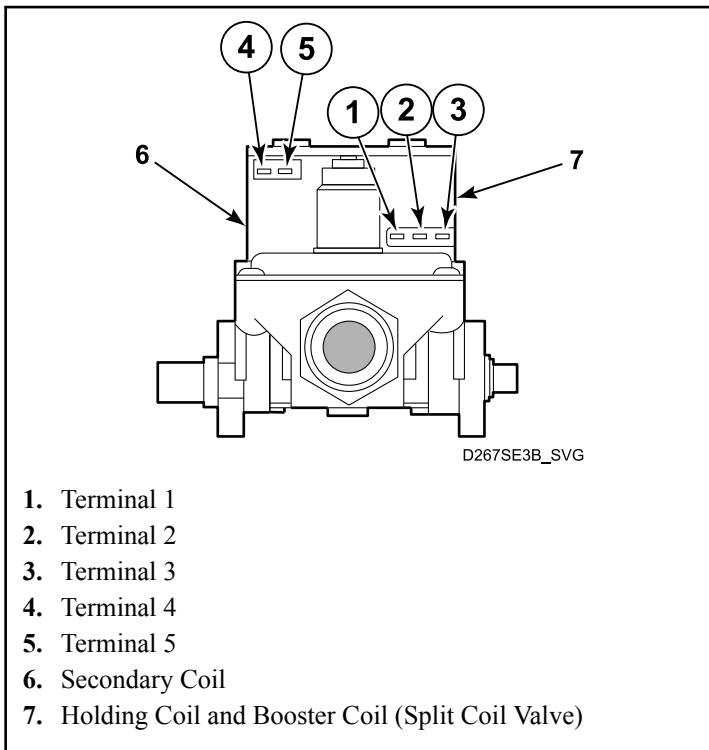

Figure 8
Gas Models - Refer to *Figure 8* and *Figure 9* .
6. Set test meter to read AC voltage and apply meter probes into terminals on the dryer harness plug that would correspond to terminals “1” and “2” on the coil. Refer to *Figure 8* and *Figure 9*. Meter should register line voltage in all temperature settings, except NO HEAT which should read “zero” VAC.